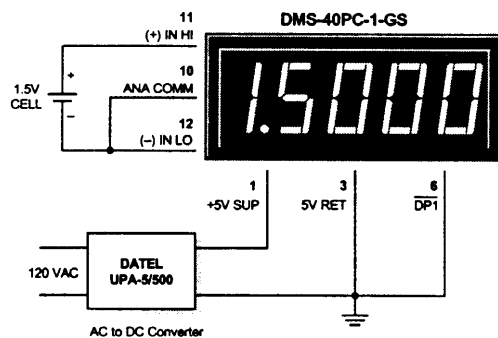

Figure 5. Floating Input Measurements
**4. Floating Signal Source Measurements:** A floating input is a signal that, before it is applied to the DMS-40PC's inputs, has no galvanic connection (direct current path) to the meter or the meter's power supply. The circuit shown in Figure 5 illustrates the necessary connections for measuring floating inputs. The 1.5V battery represents a true floating input signal since it initially has no connection whatsoever in common with the meter. Real-world floating inputs typically originate from power supplies which are transformer isolated from the DMS-40PC's +5V supply.
As the timing diagram in Figure 5 indicates, 100Hz is the optimum display scan rate when the BCD outputs are used to drive external LED displays. Faster scan rates, while permissible, are not necessary. Slower scanning, however, may result in noticeable "flickering" of the display. Common anode LED's, combined with a 74LS247 BCD to seven-segment decoder, is the simplest way of implementing an external display. A seventy-five